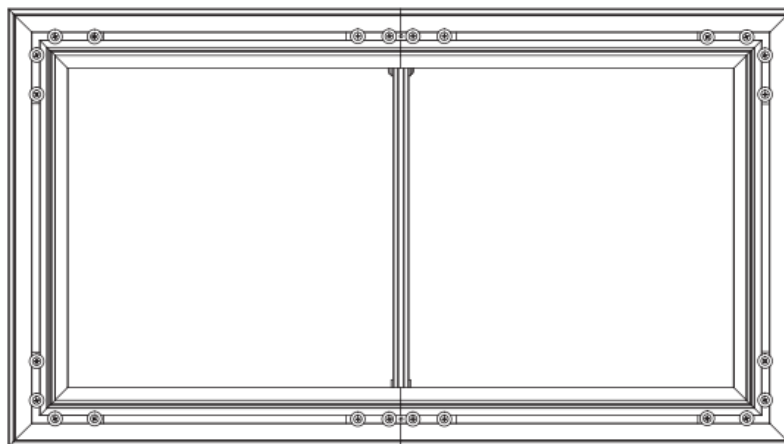

Figure 3
- Assemble the four inner frames and struts as shown in the figure below, and lock them with screws after the inner frame is assembled (Figure 2, Figure 3);